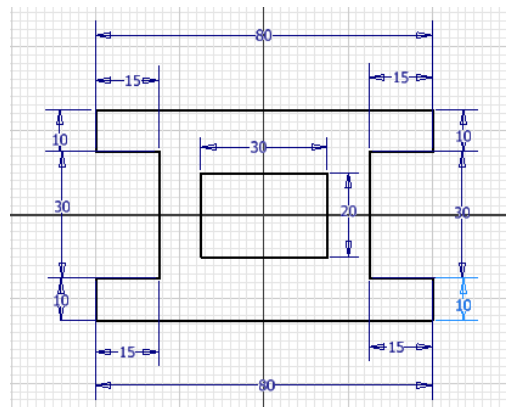

Figure 2-63 Completed sketch for Tutorial 2
- Draw the inner closed loop by using the Dynamic Input method, refer to Figure 2-63.
20. Next, right-click on the Graphics window; a Marking Menu is displayed. Choose **Cancel (ESC)** from the Marking Menu; the sketch is created, as shown in Figure 2-63.